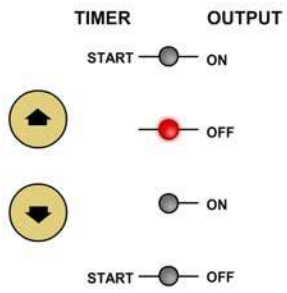

Figure 5. Typical CT Turns Ratio Test Connection
- Connect the RFD-200 S3 current source through the CT primary current path as shown in Figure 5.
- Connect the CT secondary winding to the RFD-200 S3 **[EXT INPUT CURRENT]** input as shown in Figure 5.